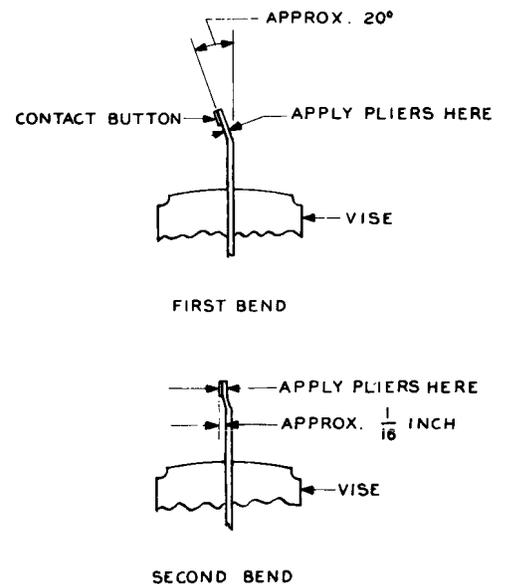

Fig. 2 - Modifying No. 21 Electrode
3.07 Examine the tips of the feeder brushes. If the offset portion is worn off and it appears that it will not be possible to weld satisfactorily on the flat side of the spring, replace the feeder brush as covered in Section 026-706-801. Using the P-long-nose pliers, straighten the tips of all feeder brushes on the bank except those having precious metal contacts on 32-type banks so that the portion which was offset is brought into line with the brush prong. Position the No. 395A feeder brush spacer over the brushes so that the top of the spacer is slightly below the feeder brush crotches as shown in Fig. 2. This will support the feeder brushes during the clipping and contact welding operations. Insert the No. 179A gauge as far as possible between the prongs of each feeder brush as shown in the figure.
3.12 To modify the movable electrode, remove this electrode from the welding pliers as covered in 3.14. Clamp the electrode in a vise as shown in Fig. 2 so that the tip of the electrode is approximately 1/2 inch above the jaws of the vise. Place the tips of the P-long-nose pliers over the electrode just behind the contact button at the points designated